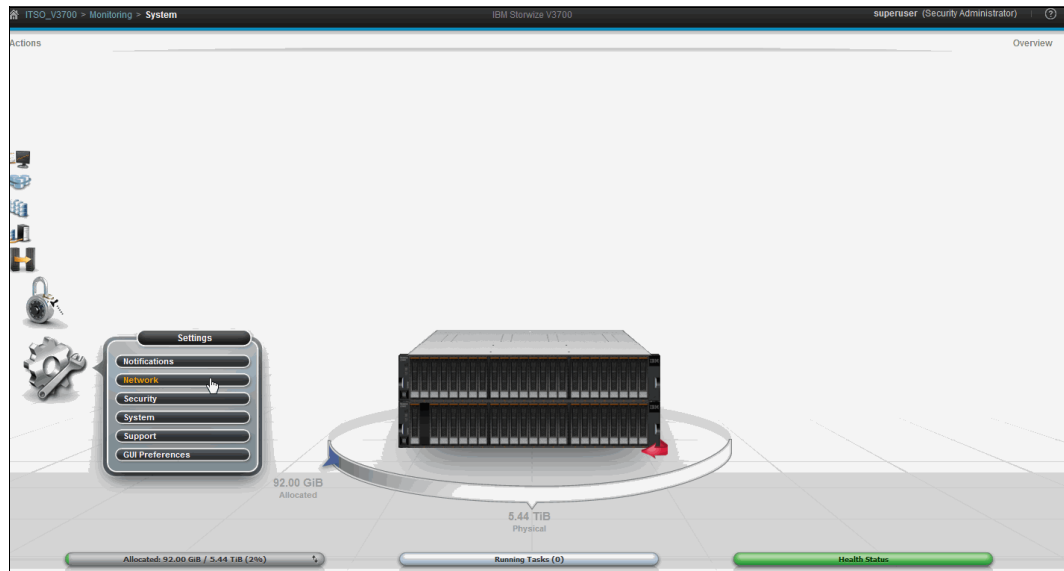

Figure 4-47 Opening the network settings view
1. Go to **Settings** → **Network**, as shown in Figure 4-47.